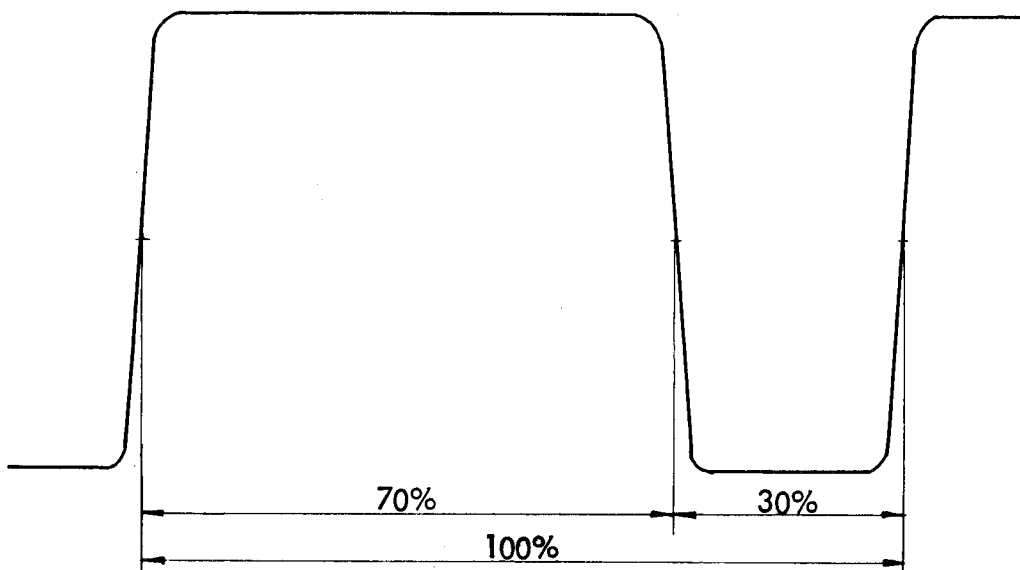

Fig. 5.3.1.
In the output from the amplifier, the relation between holes and spaces must be 70/30, as shown in Fig. 5.3.1.
4. Push SKIP, increase the light intensity, and using an oscilloscope, find the least sensitive photocell. Adjust the light, until the relationship between "holes" and "no holes" is 70/30, as shown in Fig. 5.3.1.